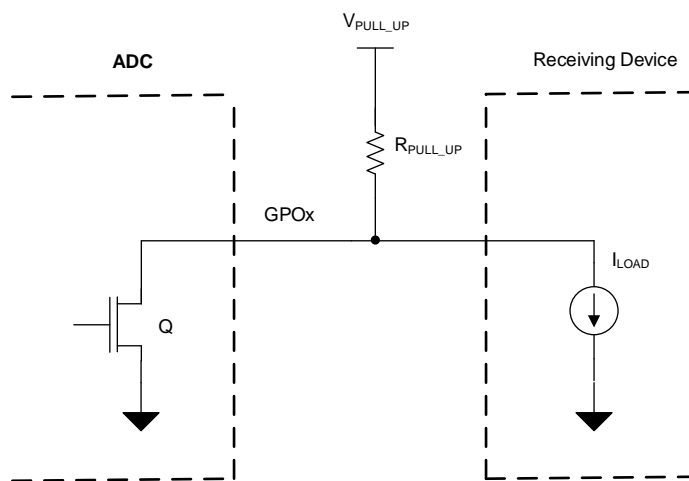

Figure 30. Digital Open-Drain Output
The channels of the TLA2518 can be configured as digital open-drain outputs supporting an output voltage up to 5.5 V. An open-drain output, as shown in Figure 30, consists of an internal FET (Q) connected to ground. The output is idle when not driven by the device, which means Q is off and the pullup resistor, R_{PULL_UP} , connects the GPOx node to the desired output voltage. The output voltage can range anywhere up to 5.5 V, depending on the external voltage that the GPIOx is pulled up to. When the device is driving the output, Q turns on, thus connecting the pullup resistor to ground and bringing the node voltage at GPOx low.